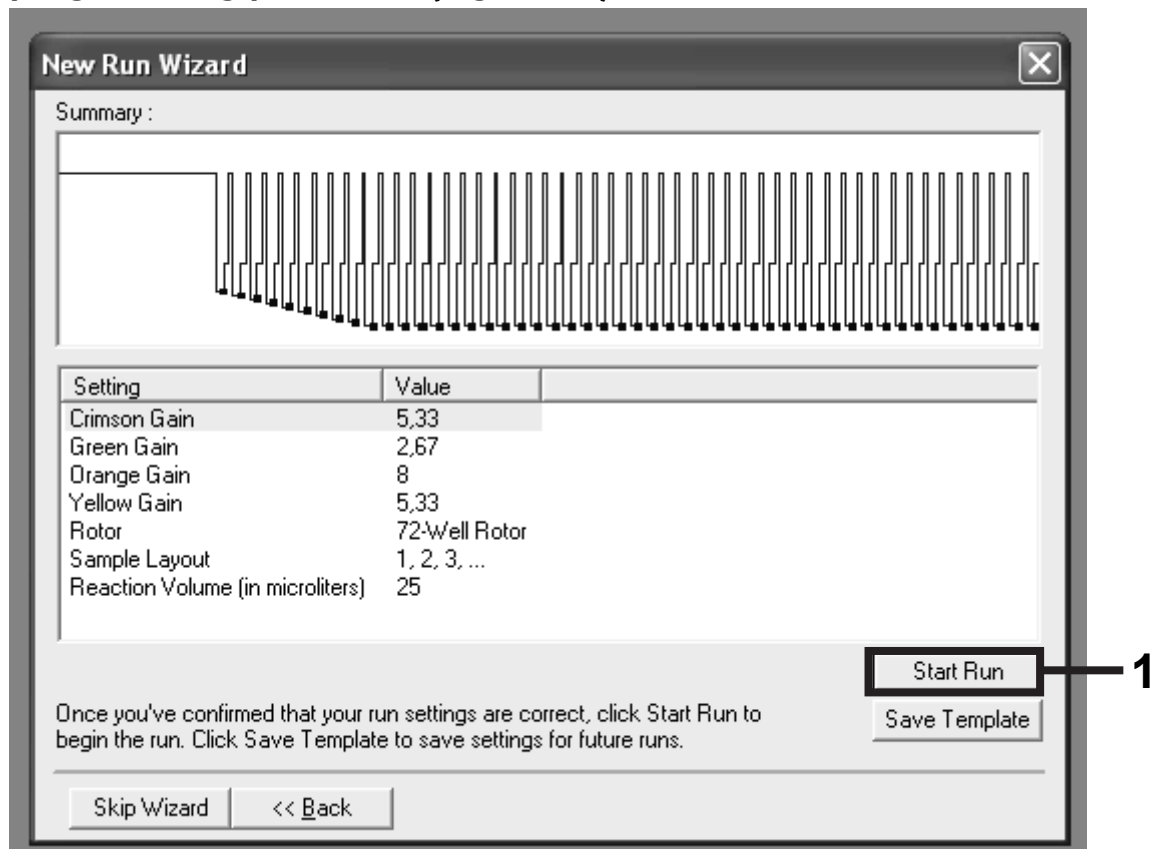

Figure 12. Starting the run.
Starting the run	Figure 12
12. The gain values determined by the channel calibration are saved automatically and are listed in the last menu window of the programming procedure (Figure 12). Click "Start Run".